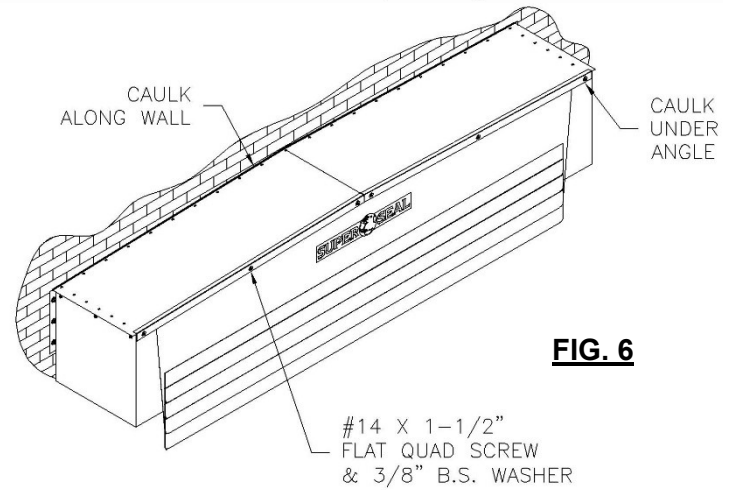

FIG. 6
- ii. Insert screws and 3/8" washer into holes (Fig. 6).